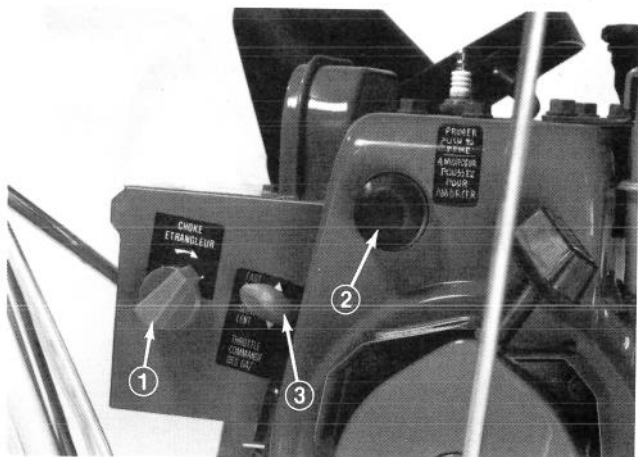

Figure 21
1. Move throttle to FAST (Fig. 21).
3. Rotate choke clockwise to full choke position (Fig. 21).
5. Depress primer (Fig. 21) five times.